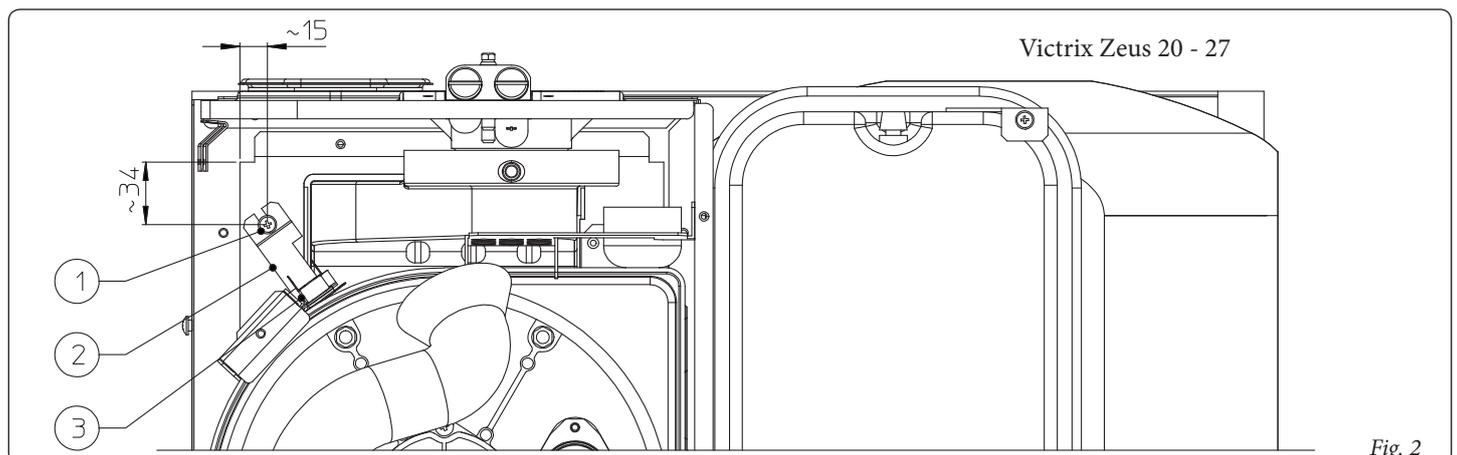

Fig. 2
Victrix Zeus 20 - 27 (Fig. 2).
- Position the flue safety thermostat (3) in a way that it is in good contact on the condensation module, using the bracket (2) to hold it.
- The bracket (2) must be fixed onto the bottom of the sealed chamber using the self-perforating screw (1), which must be positioned as described in figure 2 and following the measurements in the diagram.